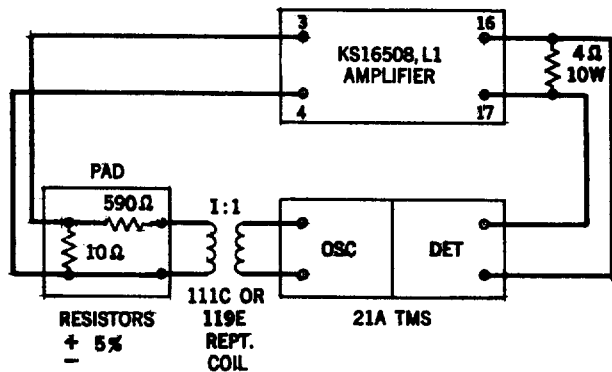

Fig. 1 - Gain-Frequency Test Setup for Reproducing Channel
5.01 The test setup for measuring the reproduce channel of the amplifier is shown in Fig. 1. Chart I outlines the step procedure to be followed when making this test. The oscillator output in Step 7 of the procedure, for instance, is measured to insure that the amplifier will deliver the proper output with the minimum input voltage requirement. The procedure for the test will vary somewhat depending on the testing equipment used.
5.03 The noise test on the reproduce channel should be made using the test setup shown in Figs. 1 and 4. Chart III outlines the step procedure to be followed when making this test. This method is recommended so as to measure the noise under approximate operating conditions. A DET (TMS) is used to measure